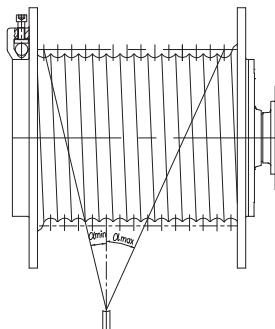

图4 Figure 4
4.3 为了保证钢丝绳正常缠绕, 要求绳偏折角 α 维持在允许范围之内(图4), 应注意以下几点:
4.3 To achieve acceptable rope winding, the deflection angle α must be kept in the allowable value (figure 4) Attent the following points: